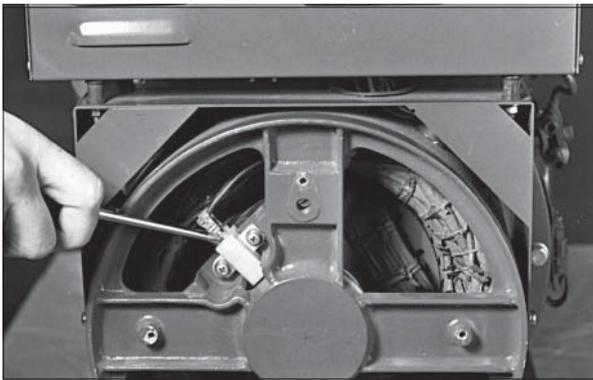

Figure 33: Brush Location.
- b. Brush assembly is white plastic with two wires leading to it. It is located at ten o'clock and is held in position by two screws (Figure 33). Remove the screws and unplug leads.